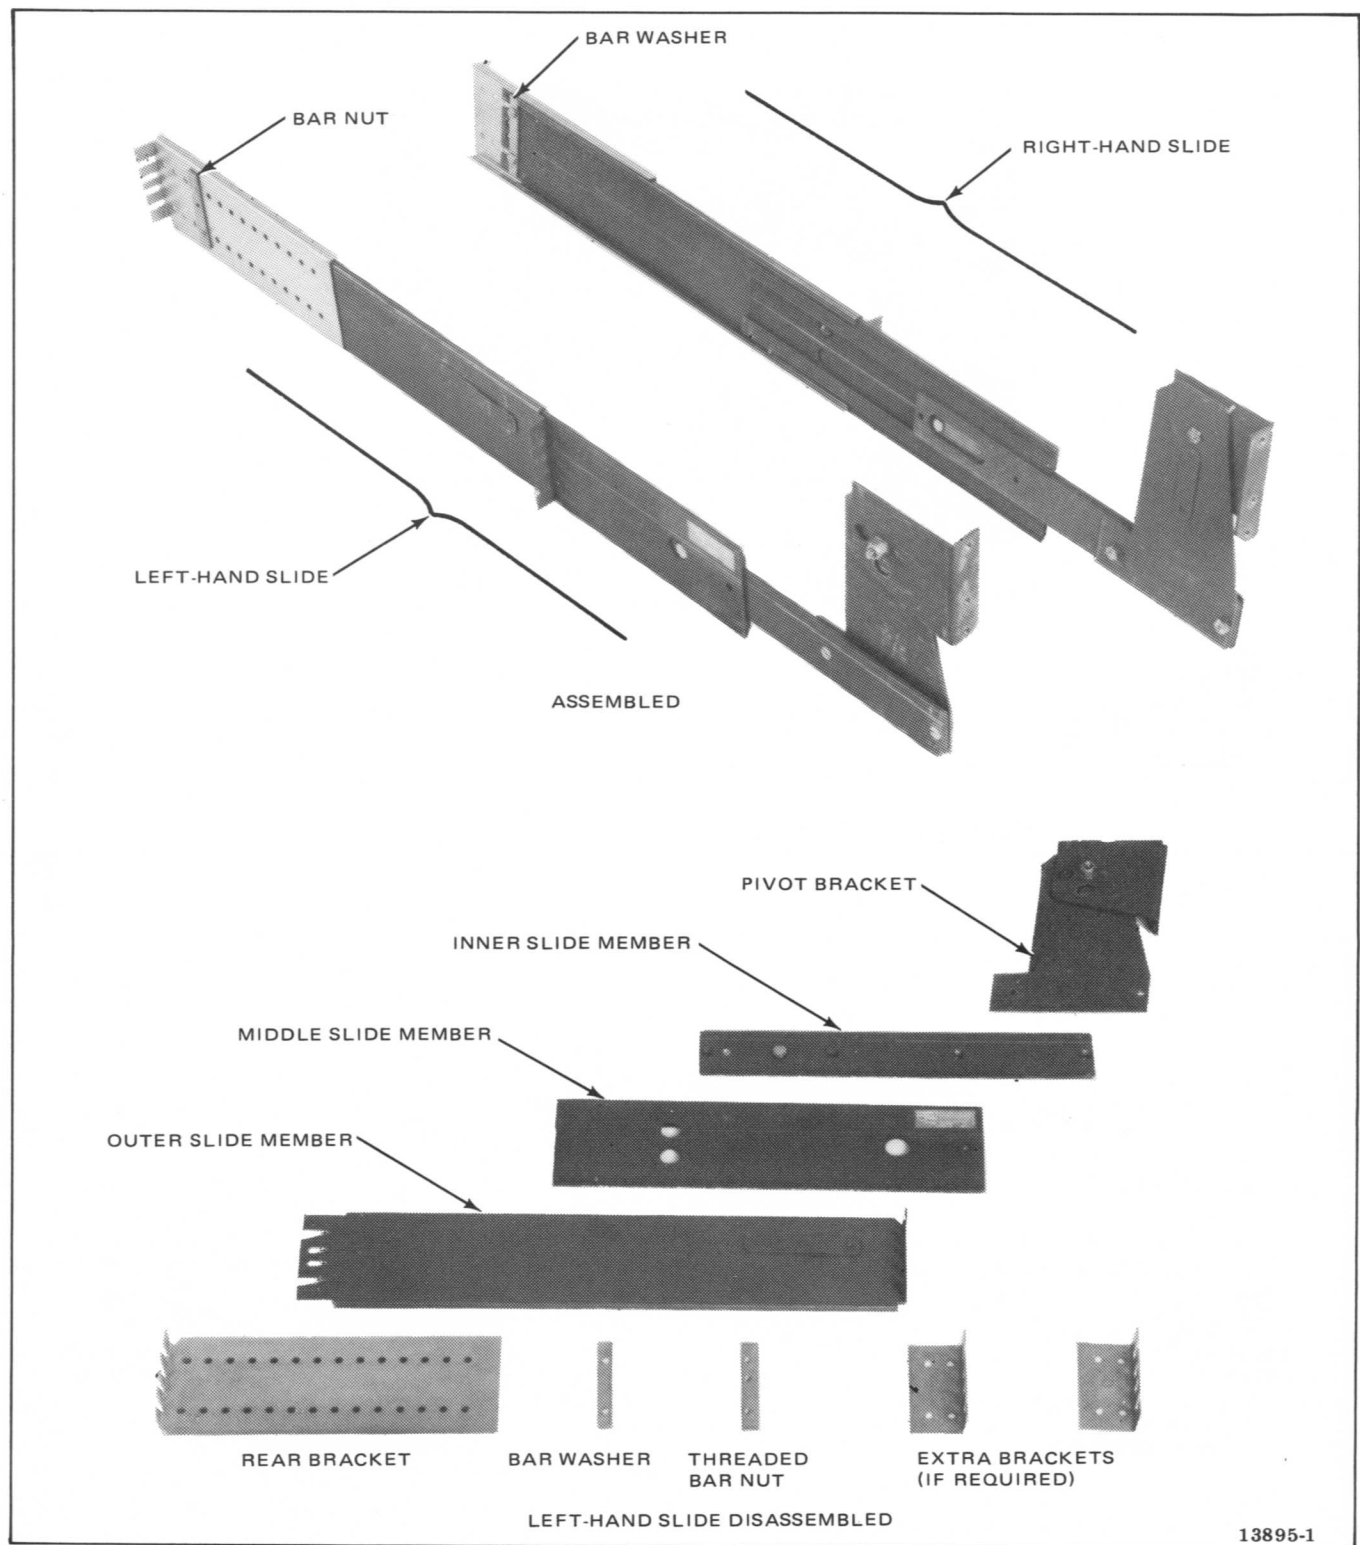

Figure 2-7. Slide Rack Mount Kit
In the slide-rack mount configuration (Figure 1-9), the recorder/reproducer is mounted on a pair of slides (Figure 2-7) that are attached to a 19-inch (48.26 cm) rack that has both front and rear rack-mounting members. When installed, the recorder/reproducer may be pulled forward on the slides and rotated 90° upward to permit easy access to the PWAs within the electronics assembly. The slides enable the transport to be extended far enough from the rack to permit 90° rotation of the transport when 14-inch (35.56 cm) reels are mounted on the transport.
3. Fasten each pivot bracket to the rear of the transport using three 10-32 \times 3/4 inch long socket-head screws with a no. 10 split washer under each screw head (do not use flat washers). Note orientation of pivot bracket flange shown in Figure 2-7.
4. If slide-rack mount parts are not separated, press release button on side of inner slide member (Figure 2-7), and remove inner slide member from middle slide member.
8. Slide the slotted flange of each outer slide member (Figure 2-7) between the front rack mounting member and the bar nut installed in step 6. Tighten screws.
10. Fasten the outer slide member to the rear bracket (as shown in Figure 2-7) using a bar washer, bar nut, and two 10-32 X 1/2 inch long binding-head screws.